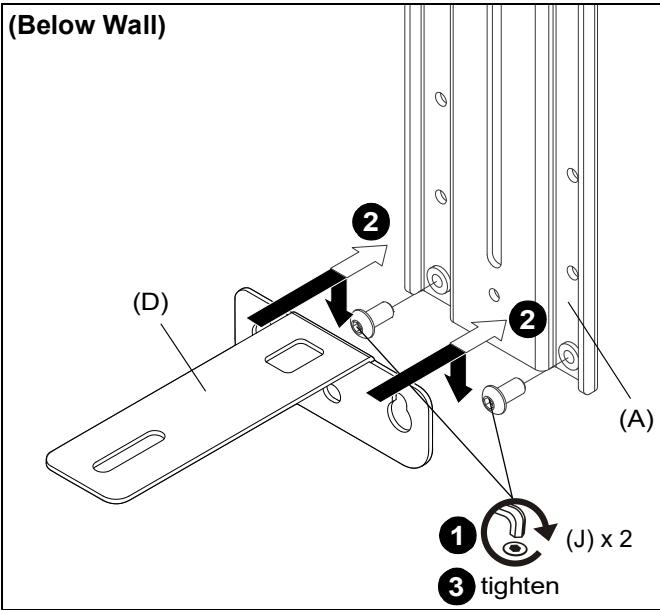
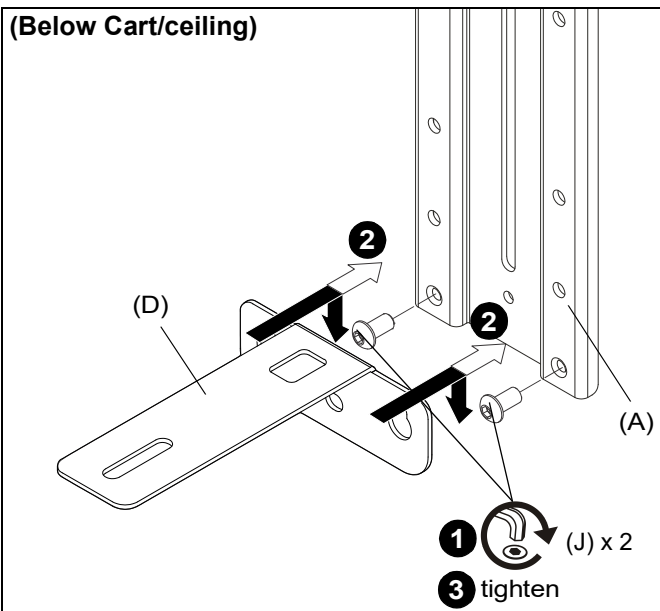

Figure 1
Figure 2
1. Loosely install two 1/4-20 x 1/2" button head cap screws (J) into lowest holes on upright bracket (A). (See Figure 1) or (See Figure 2)
2. Hang shelf support (D) onto two screws installed in Step 1. (See Figure 1) or (See Figure 2)
3. Tighten two screws to ensure upright bracket (A) is securely attached to shelf support (D). (See Figure 1) or (See Figure 2)